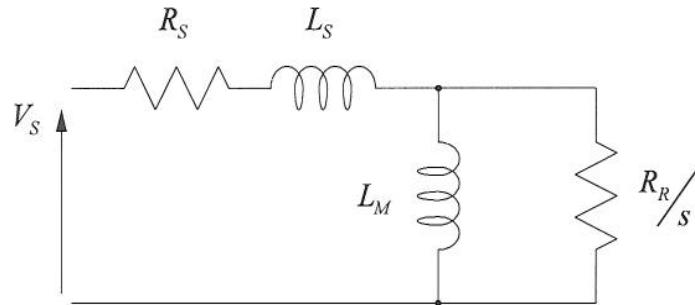

Figure Q6.1 Per-phase equivalent circuit of an induction machine (with negligible rotor leakage inductance)
- (b) For the induction machine model in Figure Q6.1, show that the torque equation  $T = 3P\Psi I_R \sin(\delta)$ , where  $P$  is the number of pole-pairs and  $\Psi$  is the magnitude of the air-gap flux-linkage, becomes Eqn 6.1. [5]
(c) The induction machine shown in Figure Q6.1 has the following data: